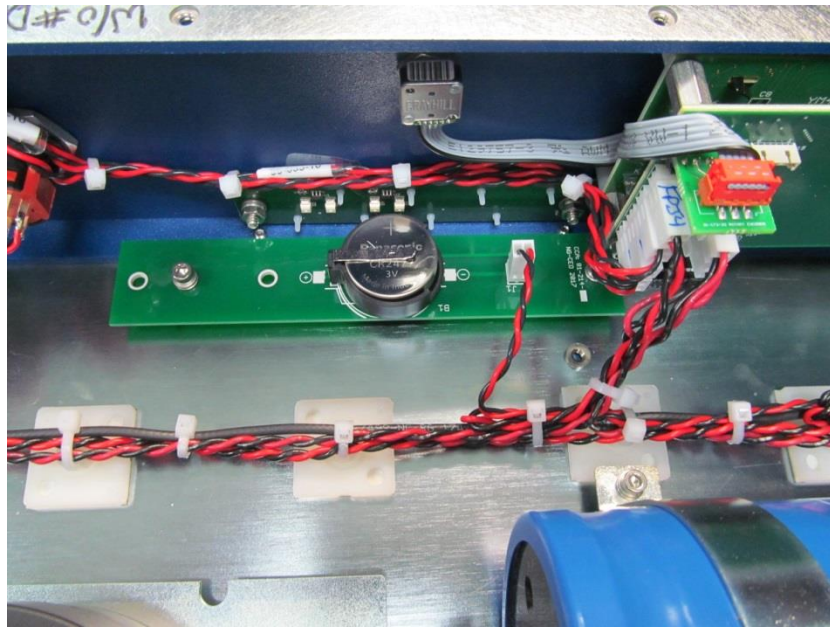

Figure 2: 2U Remote Battery Holder Circuit Card Assembly Location
6. Locate the Remote Battery Holder circuit card assembly as shown in **Figure 2**. Use (2) SCHS #6 x 1/4" with lock and flat washers to hold in place.